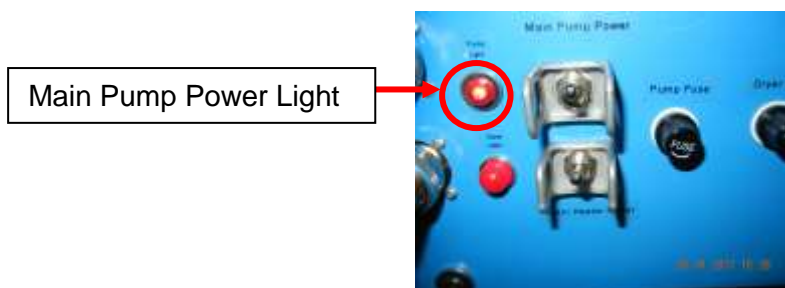

Figure 2: Main Pump Power Switch
- 1.4 Flip Main Pump Power switch on Water Recovery System (WRS) (located to right of SPE System) to “ON” (see Figure 2).